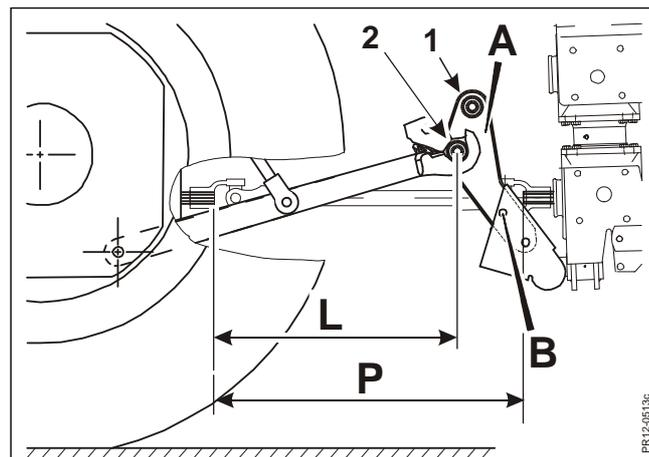

Fig. 2-3
- Fig. 2-3 On the extension links there are two possibilities for placing the draw pins, depending on whether the lower link arms on the tractor are short or long.
- Fig. 2-3 **LONG LOWER LINK ARMS:**
- Fig. 2-3 When mounting the draw pins at position **2** remember to exchange and turn around the right and left extension arms **A**.